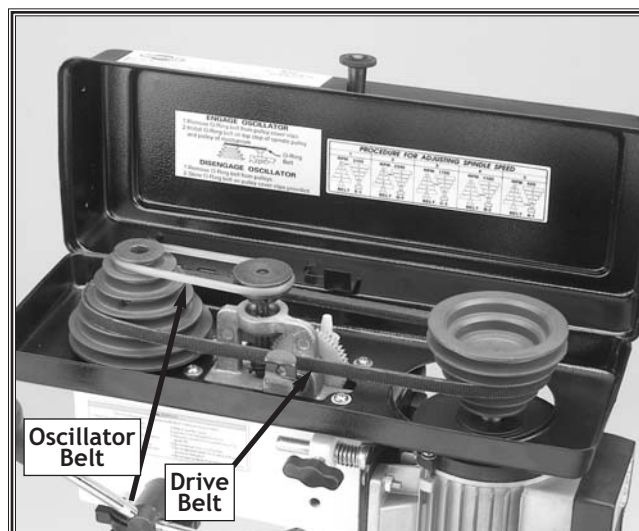

Figure 15. Belt drive system.
2. Open the belt cover. See **Figure 15**.